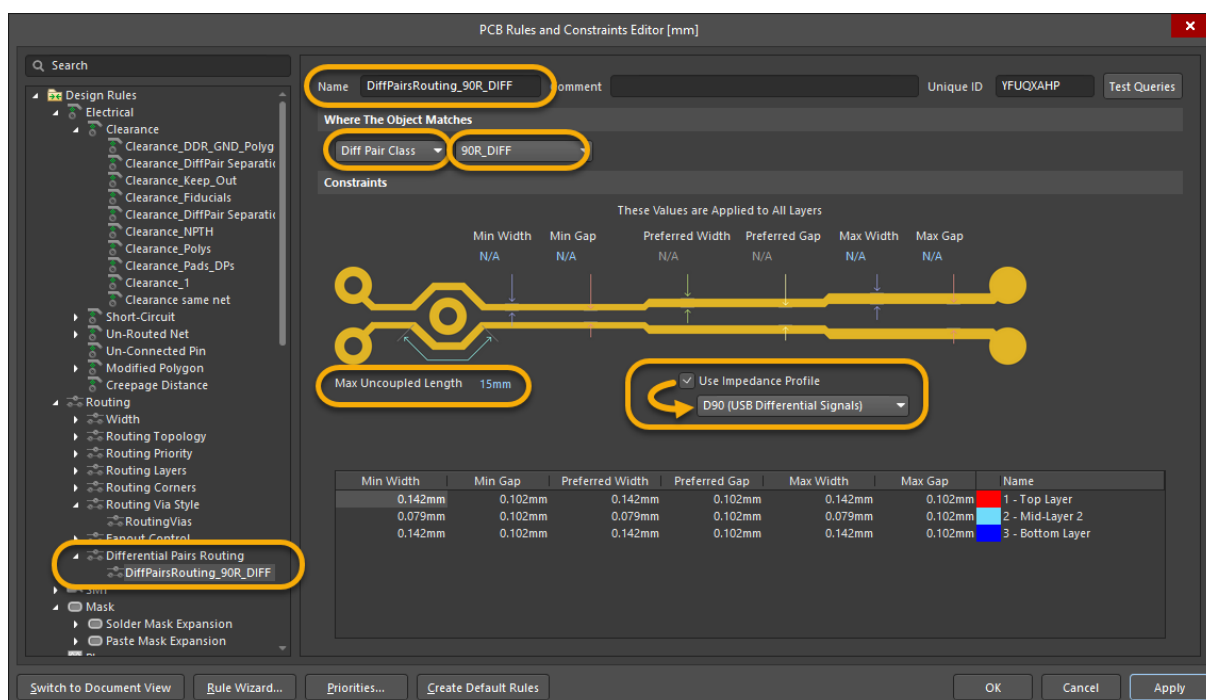

Figure 18. Differential Pair Routing Rule Using Impedance Profile
28. Add a new Differential Pairs Routing rule and change or select required fields, see Figure 18.
(Specifies the value for the maximum permissible uncoupled length between positive and negative nets within the differential pair), Figure 18.